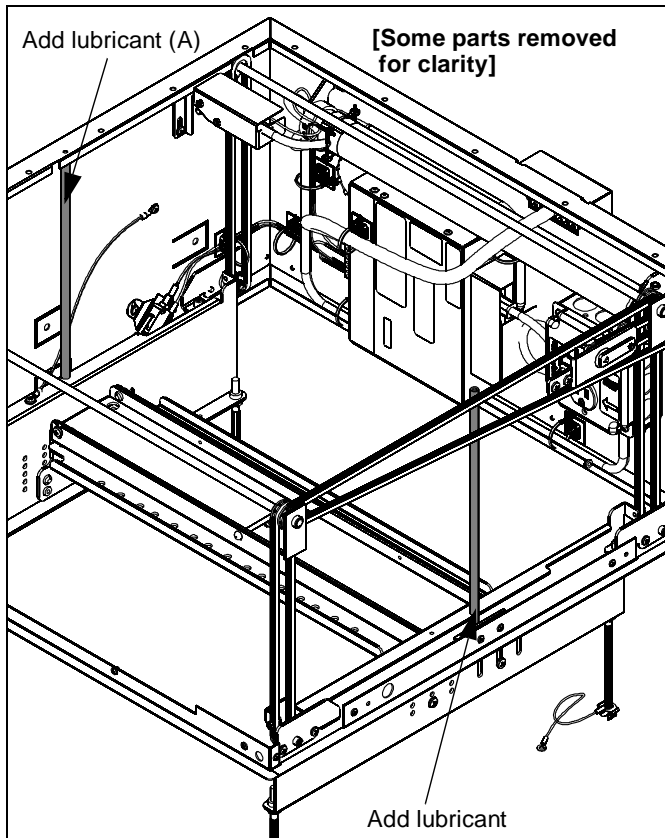

Figure 1
1. Lubricate the length of the lift rods on two sides of the SL151, using a liberal amount of lube grease (A). (See Figure 1)